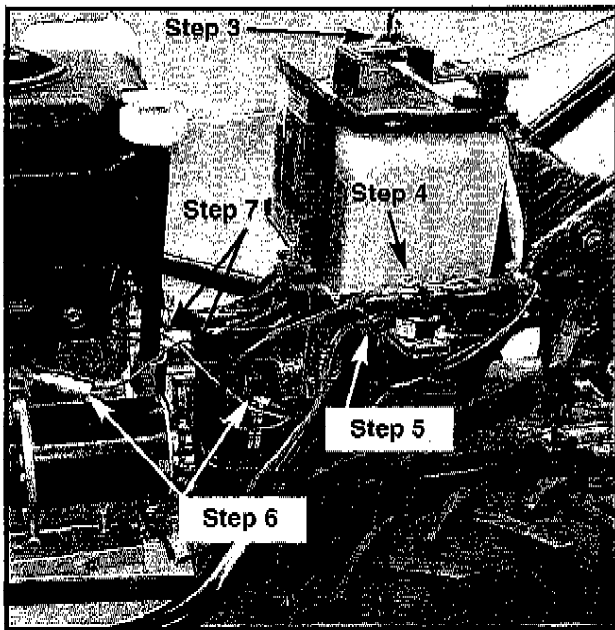

FIGURE 2
3. Refer to Figure 2. Disconnect the frame ground lead from the NEGATIVE battery terminal.